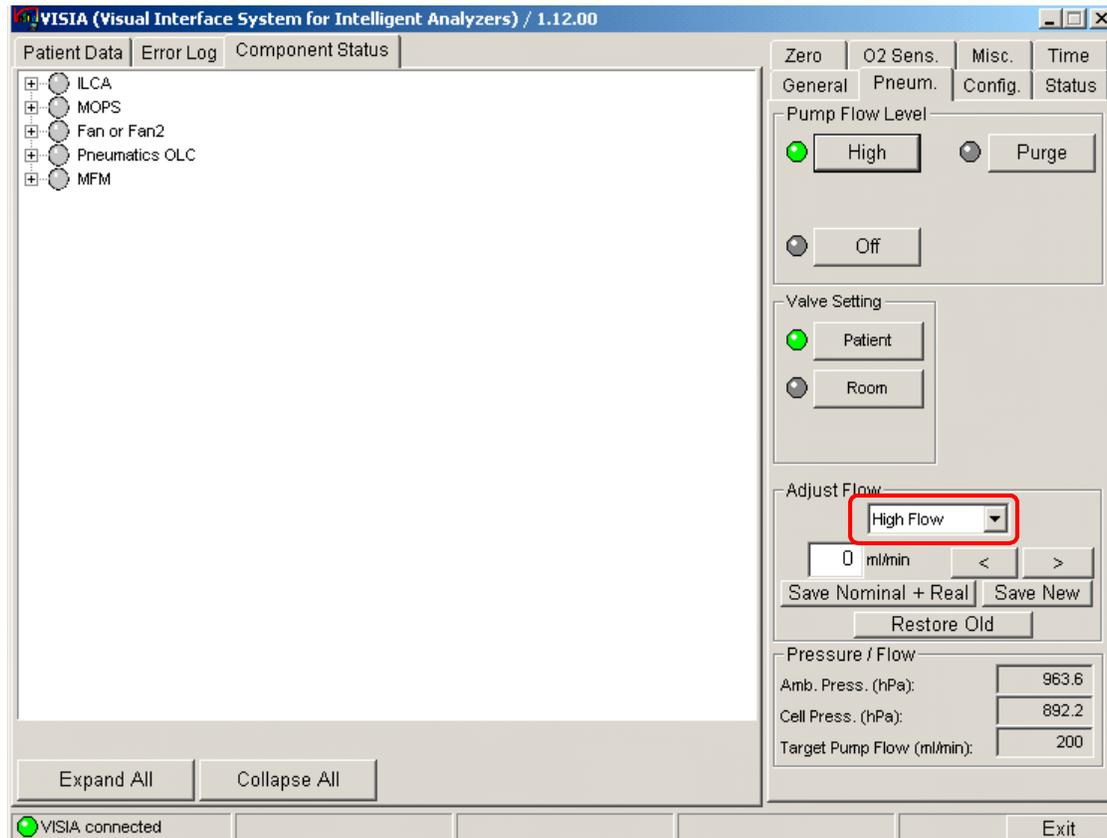

Figure 10 Flow Rate Adjustment
- 2 Select High Flow in the Adjust Flow pull down menu (See Figure 10).